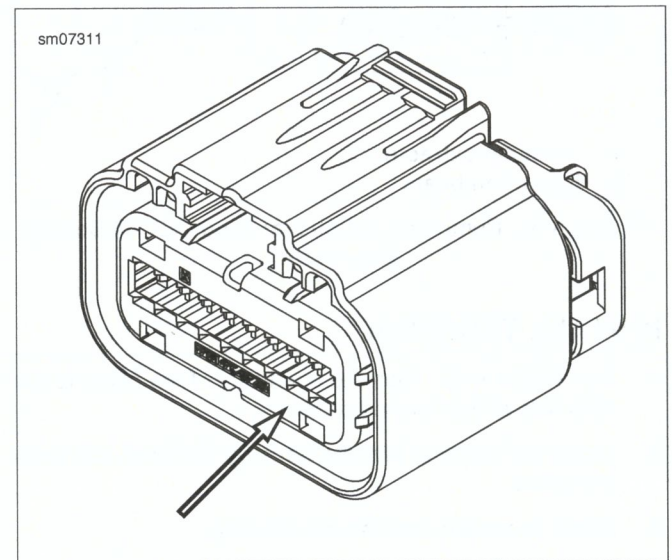

Figure A-30. Tyco GET 64 Secondary Lock
1. See Figure A-30. Remove secondary lock from the housing.